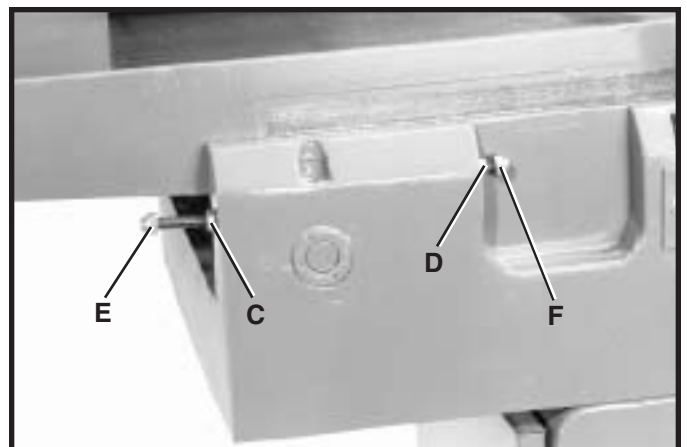

Fig. 29
Positive stops are provided on the jointer to limit the height and depth of the infeed table. To adjust the stops, simply loosen two locknuts (C) and (D) Fig. 29, and turn the two adjustment screws (E) and (F) as necessary. Retighten locknuts (C) and (D). We recommend that the height of the infeed table be adjusted so the table at its highest point will be 1/2mm below the highest point of the knives. This is an important feature of your jointer which enables you to rapidly position the infeed table for a finish or a final cut.